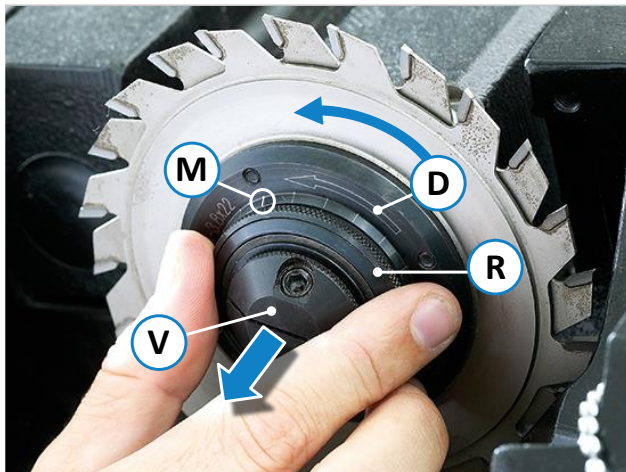

Figure 84: Quickstep setting mechanism for scoring saw blade
- Pull the knurled screw (R) of the clamping flange forwards (V) and turn it several revolutions (approx. 5) to the left until the front saw blade can be turned freely.
- Insert the saw blades into the bolts on the flanges, observing the direction of rotation (**D**), see ⇒ Figure 84.